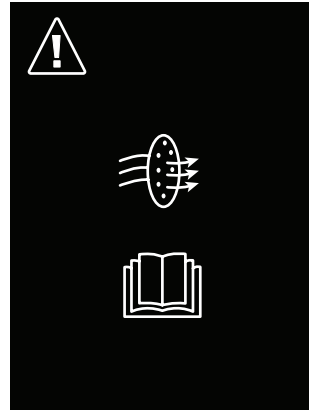

Fig. 14: Check filter
- ! To ensure optimal sensor performance and longevity: the filter must be replaced when visibly dirty—or when the Check filter screen is displayed (see Fig. 14).
After the internal timer has logged approximately 30 hours of use, the Check sensor filter screen will appear after powering ON (see Fig. 14).